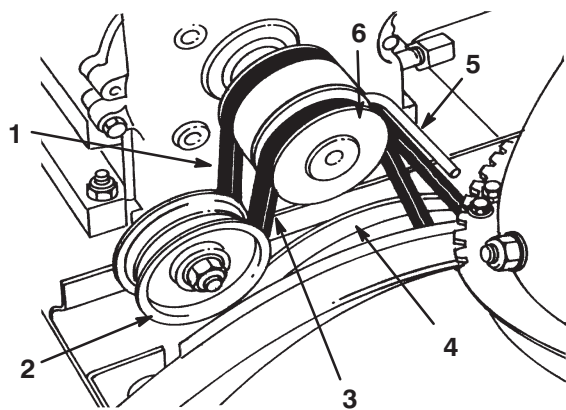

Figure 24
1. Flange-head bolt (2) 2. Belt cover
5. Loosen the belt guide (Fig. 24).
6. Remove the auger/impeller drive belt from the engine pulley and the large auger/impeller pulley (Fig. 24).
11. Remove the traction drive belt from the engine pulley and the large traction pulley (Fig. 24).
13. Loop the belt over the engine pulley, ensuring that the belt is on the inside of the belt guide (Fig. 24).
18. Install the auger/impeller drive belt around the large auger/impeller pulley and engine pulley, ensuring that the belt is on the inside of the idler pulley and the belt guide (Fig. 24).
4. Loosen the belt guide (Fig. 24).
5. Remove the auger/impeller drive belt from the engine pulley and the large auger/impeller pulley (Fig. 24).
6. Install a new belt around the large auger/impeller pulley (Fig. 24).
7. Loop the belt over the engine pulley, ensuring that the belt is on the inside of the idler pulley and the belt guide (Fig. 24).